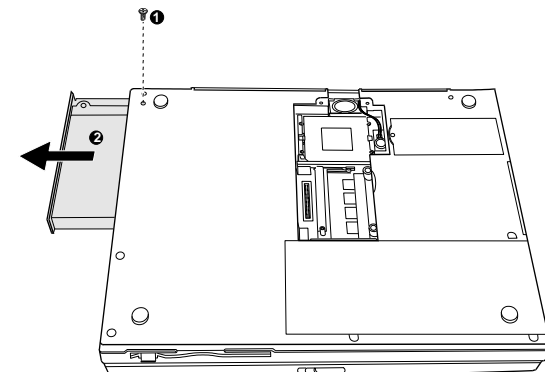

Figure 5-9. Removing the CD-ROM Drive
2. Slide the CD-ROM/DVD-ROM drive into the compartment and secure with one screw.(fig 5-9)